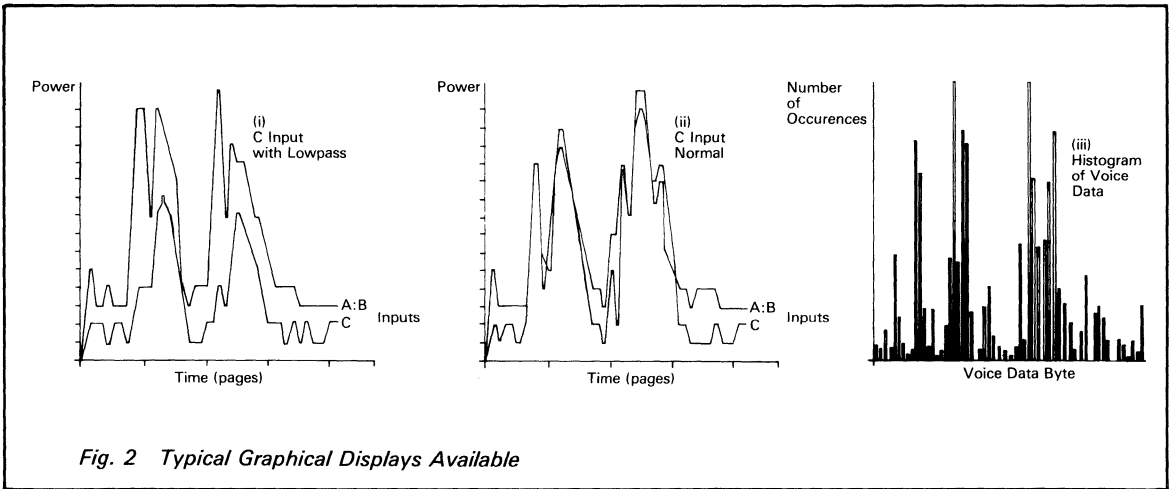

Fig. 2 Typical Graphical Displays Available
- G & D** **Graph Page Power:** To graph recorded page power against time. The <D> command sets the graph scales. *See Fig 2.